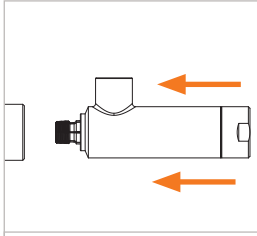

Figure 10
- ▶ With the pilot pressure applied, insert the connector straight into the test piece until the front seal (Pos. 7) touches the test piece (*Figure 10*). Doing so will prevent any damage to the front seal caused by any sharp edges on the test piece and ensure a correct connection.